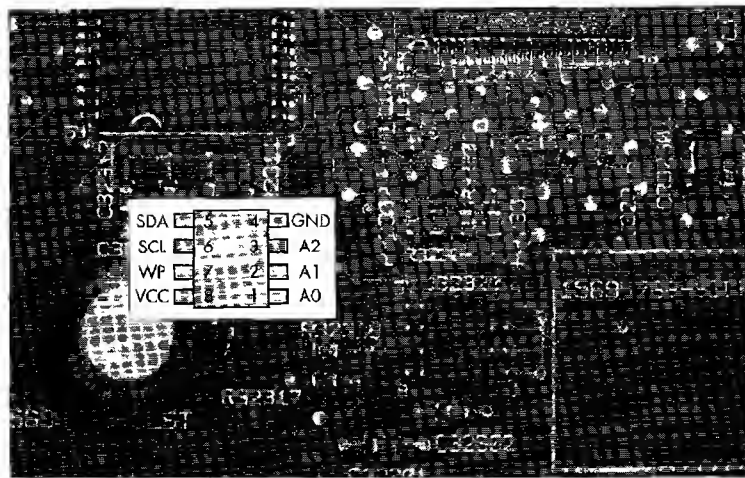

Figure 19-4: The nonvolatile eight-pin serial EEPROM (24c16)
1. This modem uses a small serial EEPROM to store the hardware-specific addresses and configuration boot flags (see Figure 19-4). Pin 5 of the EEPROM is known as the SDA (Serial Data) pin. When this pin is grounded, the modem will not be able to write any data to the EEPROM. This will cause one of the modem's diagnostic checks to fail. Before continuing, disconnect the power cable from the modem. When working with electronic components, it's safer to work with the device powered off.